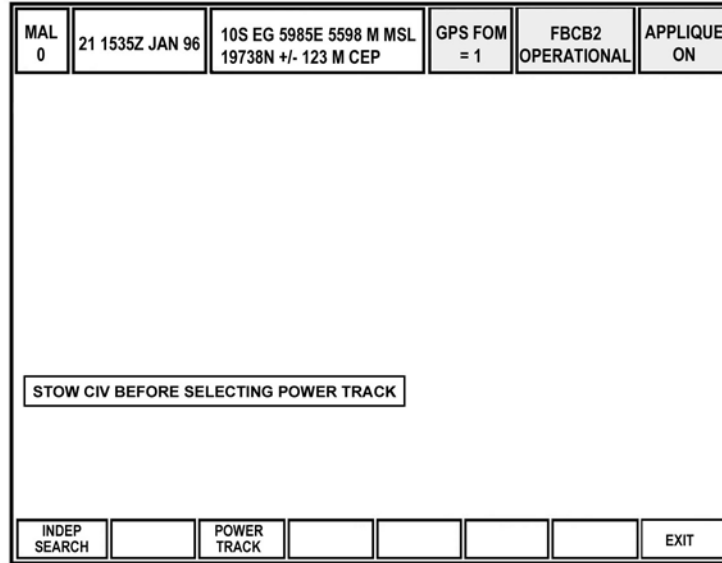

Figure 11. POWER TRACK.
- (e) To select gun power track mode, press and release the POWER TRACK softkey (Figure 11).